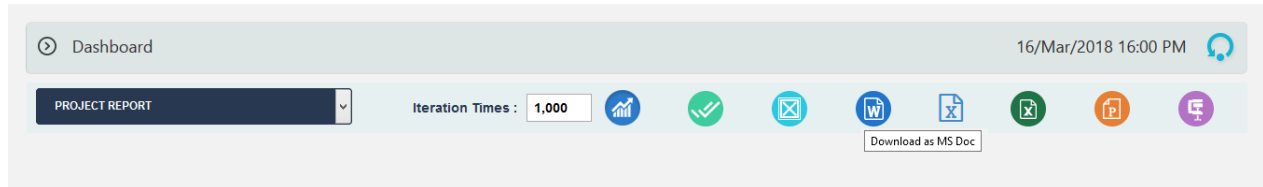

Figure 2.80
3. Click the **Word** icon to export the chart to **MS Word**. (Figure 2.80)